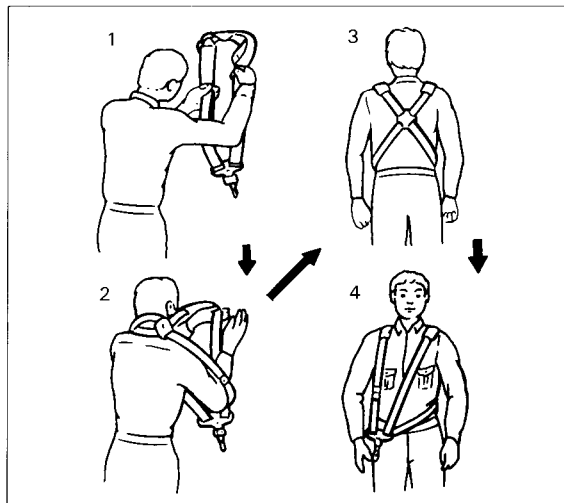

Fig. 1
- Hanging band fitting procedure. (Fig. 1)